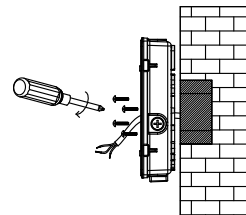

Figure 16
11. Secure the back plate to the j-box with screws in the holes drilled in step 5. (see Fig. 16)